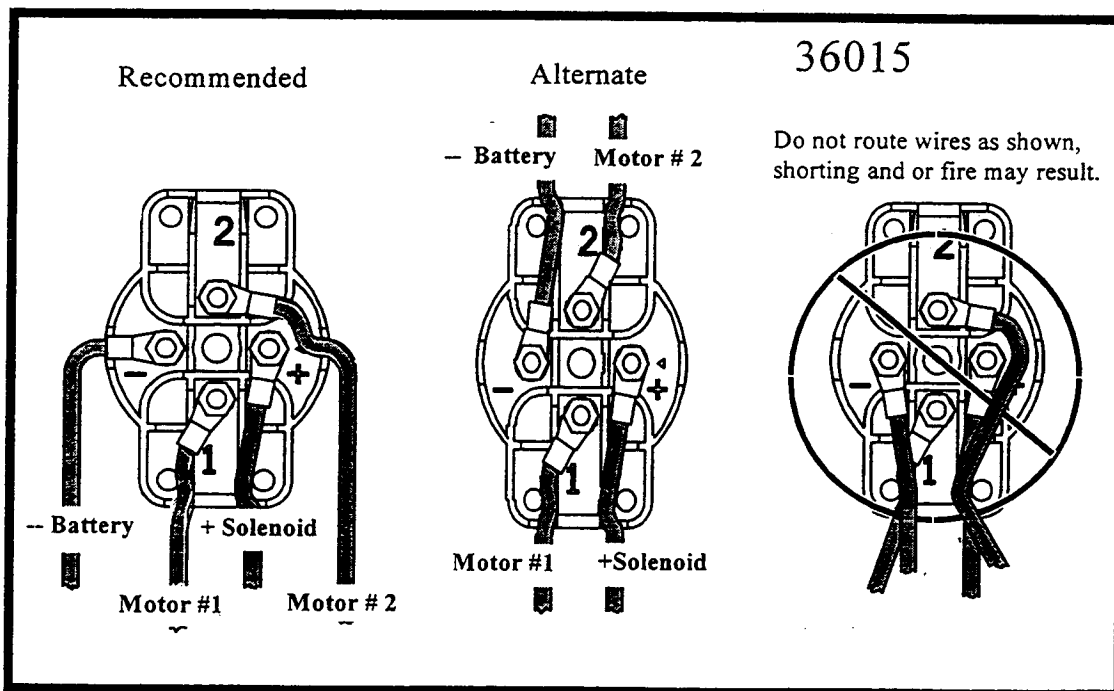
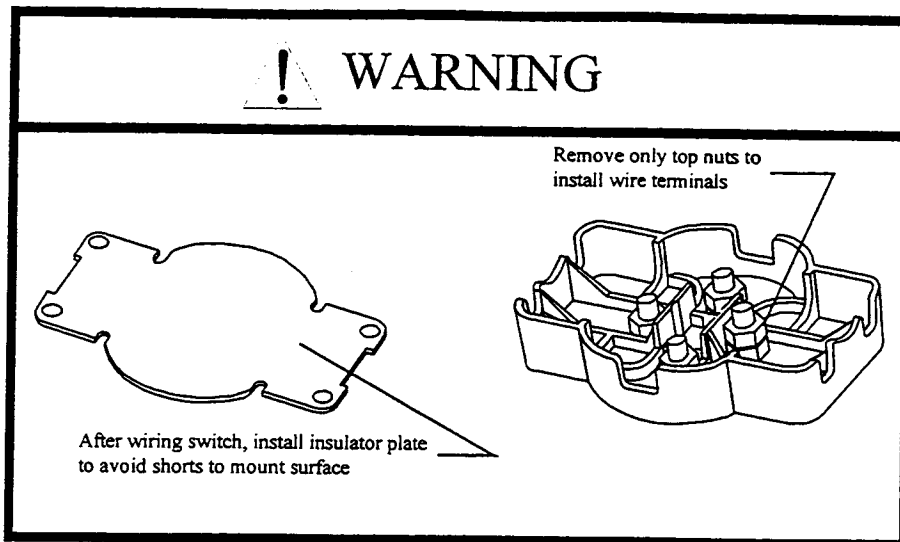

FIGURE 1-1
FIGURE 1-2
- 2) For items 36015 and 36033 refer to FIGURE 1-1 and FIGURE 1-2